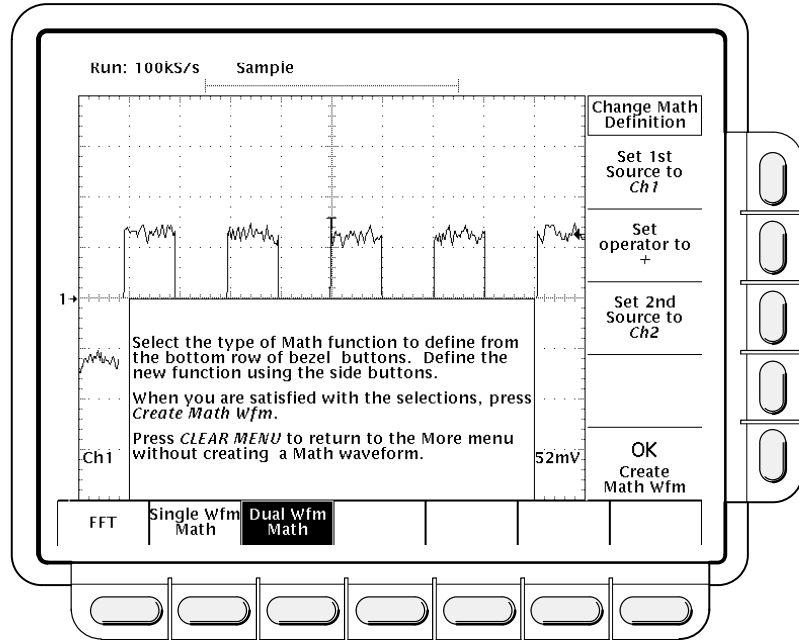

Figure 3-80: Dual Waveform Math Main and Side Menus
4. Press **Change Math waveform definition (side)** → **FFT** (if your oscilloscope contains Advanced DSP Math), **Single Wfm Math**, or **Dual Wfm Math (main)** to alter the present math waveform definition (see Figure 3-80).